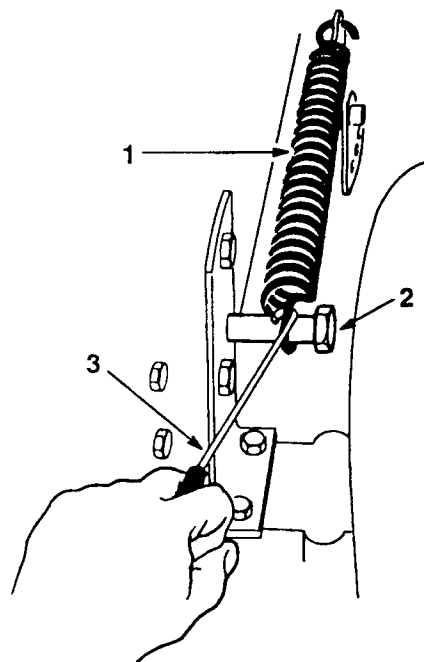

**Figure 43**
9. Install the blade control rod onto the blade control arm and secure it with the washer and hair pin cotter (Fig. 43).